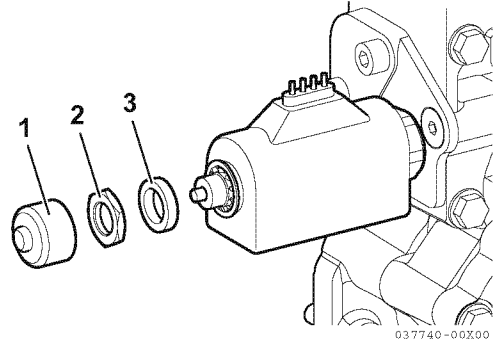

Figure 12
- With the engine(s) off, remove cap (1, **Figure 12**), nut (2, **Figure 12**) and collar (3, **Figure 12**).